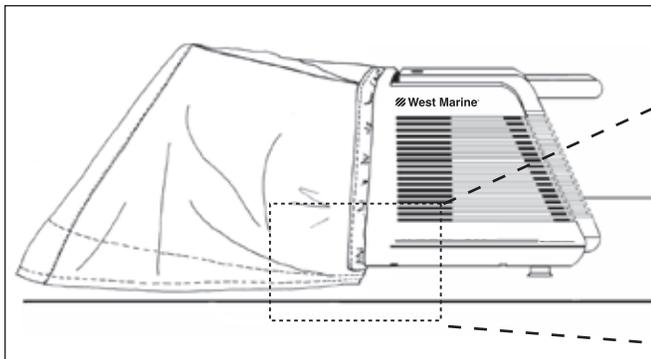

Figure 2. The Carry-On positioned in the boat hatch with the Hatch Bag in place. See inset Figure 2b.
2. Place hatch bag over Carry-On in grooves provided. Do not allow hatch bag to cover air intake vents or condensate drain. (See Fig. 2.)